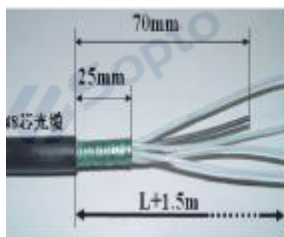

Figure 3
- According to figure 3, the fiber cable is stripped, and the oil on the fiber core is removed, and the fiber core is inserted into the bare fiber protective sleeve.